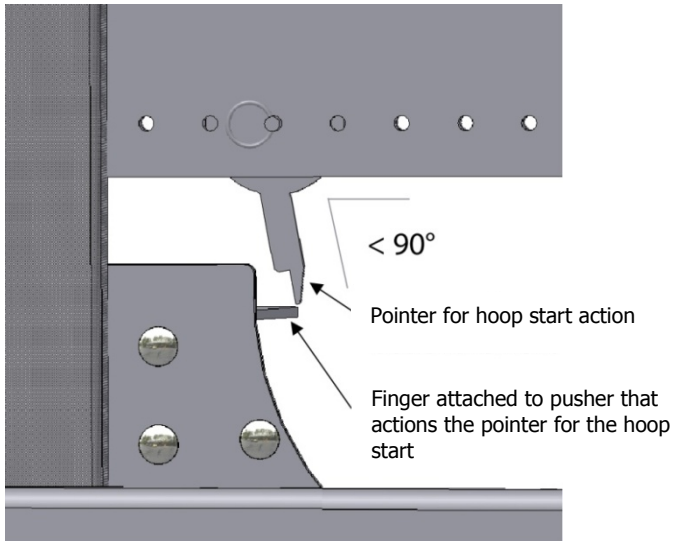

Figure 39 – Adjusting the control of the hoop start (position of the pointer)
3. You should place the pointer for the hoop start as you see in the below illustration (Figure 39) :
- Manually push the pointer forward on the machine, the angle should be slightly lower than 90° (Figure 39).
- Pull on the emergency stop button. The pusher will move forward. When the finger that is attached to the pusher arrives in front of the pointer push the emergency stop button (Figure 39).